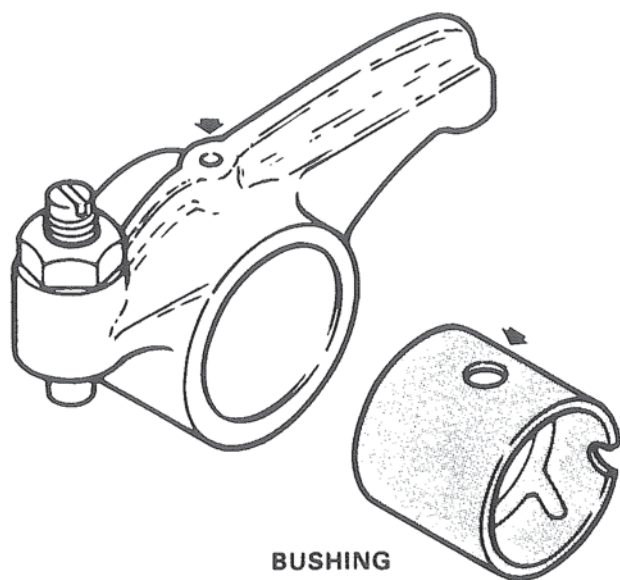

Figure 5. Installing Bushing.
B. Place new bushing on rocker arm, bushing seam toward adjusting screw, oil hole in bushing lined up with oil hole in rocker arm. Figure 5.